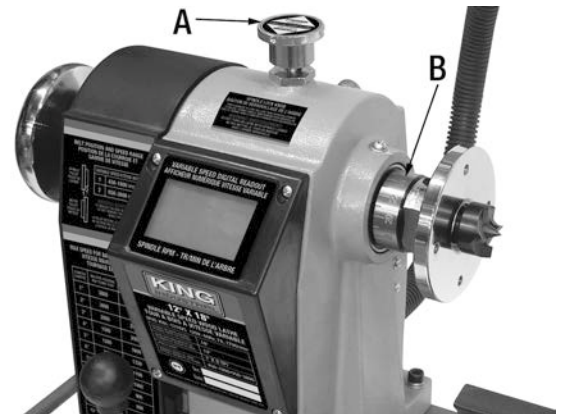

FIGURE 17
The spindle lock knob, also known as the indexing knob (A) Fig.17 allows the user to make evenly spaced cuts on a workpiece while keeping the headstock spindle locked. The spindle index indicator (B) contains 24 grooves so the turning sections can be made in multiples of 24, 12, 8, 6, 4, 3 and 2. For example, to make 8 equal sections, mark your work at 1, 4, 7, 10, 13, 16, 19 and 22 as shown below.
1. Pull the index knob (A) Fig.17 upwards and turn it clockwise to lock the spindle.